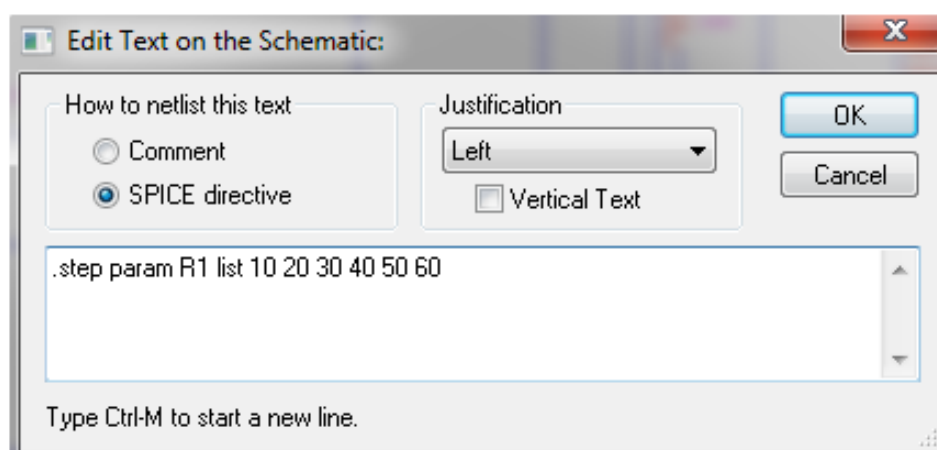

Figure 61: LTspice incremental sweeping directive window
1. On the spice directive window, enter the step command as shown below in Figure 61. Press keyboard letter "T" to show the spice directive. Do not forget to tick the "Spice directive".